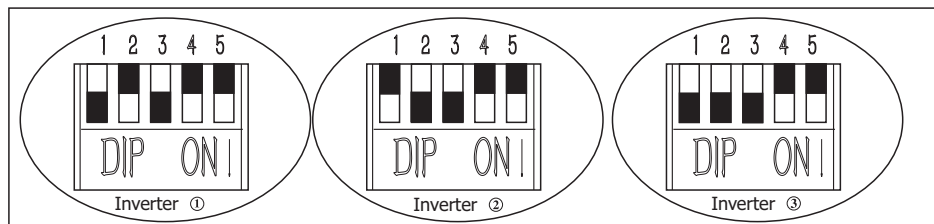

Figure 2
Step 2: On the bottom panel of inverter ,there are 5 pins DIP switches, you can set it as follow Figure 2 .